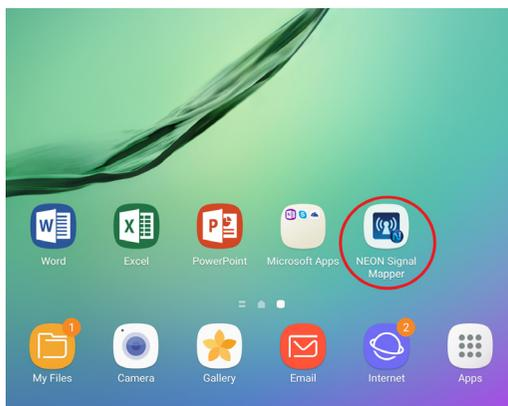

Figure 2-9. NEON App
1. Touch the NEON App on the smartphone as shown in Figure 2-9.